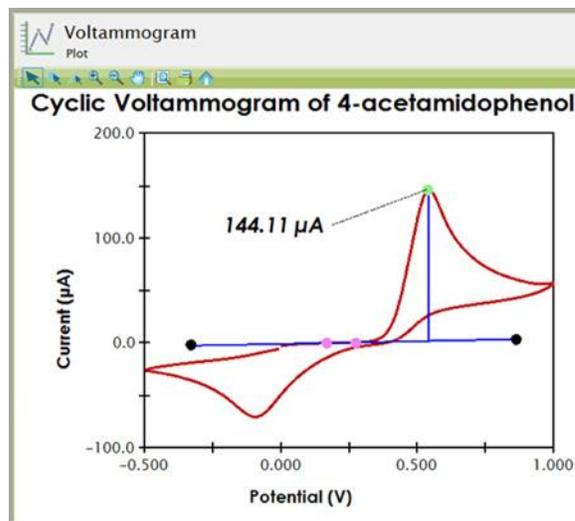

Figure 8. CV of 4-Acetamidophenol with Oxidation Peak Identified
voltammogram (see: Figure 8). Measure the peak current for each of the five standard solutions. Also measure the peak current for the voltammogram obtained using the Diluted Medication Test Solution. Record all of these results in your notebook.
- Examine the peak height shown in Figure 8. Given that the oxidation of acetaminophen involves the removal of two electrons from the molecule, how many molecules per second must be oxidized in order to produce the observed peak current?